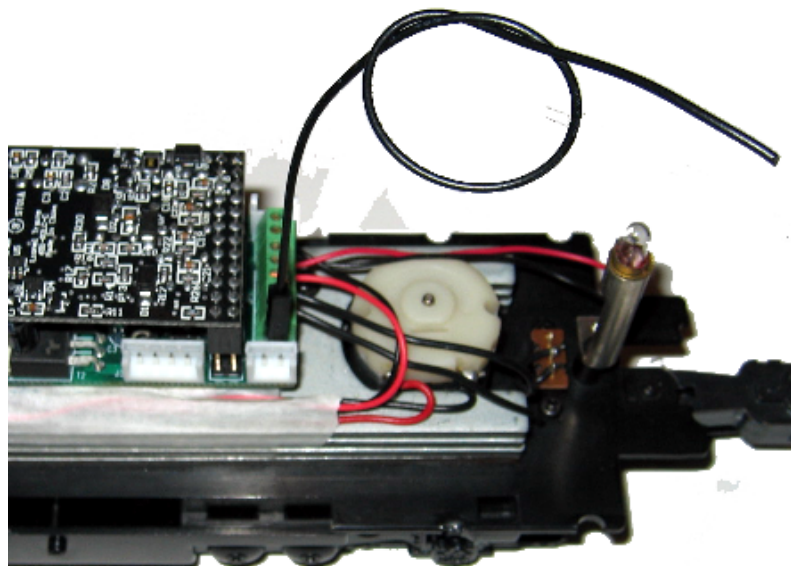

Figure 7
6. Before replacing the shell, do an operational check. Verify the “ON / OFF” switch on the bottom is set to “ON” for “run”. The “OFF” position is now the “program” position. Next, attach the antenna as shown in figure 7, looping as shown to keep it from dragging.